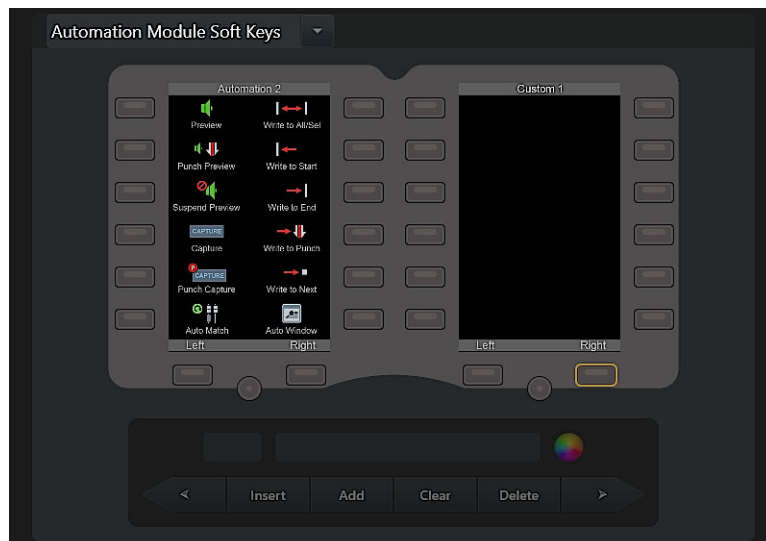

Figure 58. Left and Right navigation keys defined for a Soft Key bank
- 8 Repeat the previous steps for the “right” navigation key of the new bank, defining it to **Go to Next Page** as shown in Figure 58.